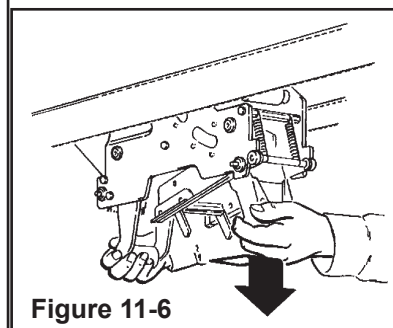

Figure 11-6
3. Hold upper taping head applying and buffing arms from under upper assembly, slide head forward and down to remove (See Figure 11-6).